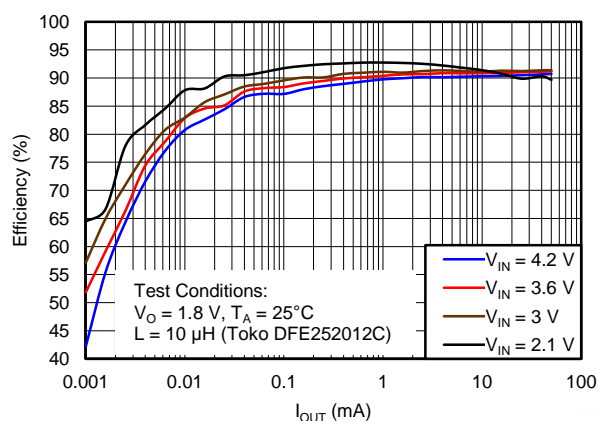
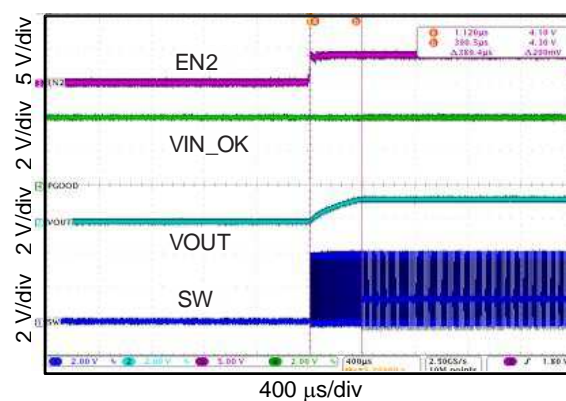

Figure 3. Efficiency Versus Load Current, $V_{OUT} = 1.8$ V
Figure 7. Standby-Mode Startup Behavior
1. If measuring DC waveforms similar to those shown in Figure 3 – Figure 7, set the timebase as shown in the plot and connect the probes to the applicable headers (IN, OUT, VBAT_OK) or SW pin and the closest GND header.